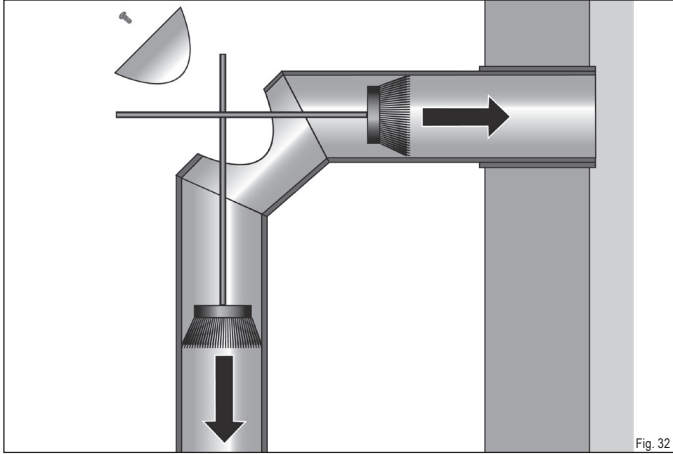

Fig. 32
- ▶ Open the clean-out port on the flue pipe (Fig. 32).
- ▶ Sweep the deposit to the back into the chimney and down into the stove (Fig. 32).